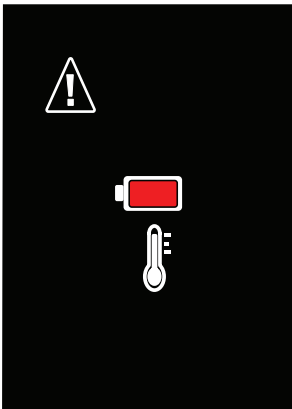

Fig. 22: Battery temperature warning
- ! Immediately disconnect the charging cable if the Battery temperature warning screen is displayed on the screen (see Fig. 22).
- ! Failure to disconnect the charging cable to stop charging when the Battery temperature warning appears (see Fig. 22) could result in fire, explosion, and serious damage or injury.
- ! If the Battery temperature warning appears (see Fig. 22), the IR LD 1.0. must remain disconnected until both the unit and the charger return to ambient temperature. Allow a minimum of three (3) hours before attempting to reconnect charger.
- Immediately disconnect charging cable, if the Battery Temperature Warning Screen appears (see Fig. 22)
- Allow a minimum of three (3) hours before attempting to reconnect charger.